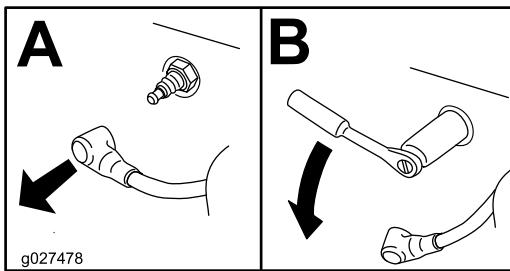

Figure 65
4. Locate and remove the spark plug(s) as shown in Figure 65.